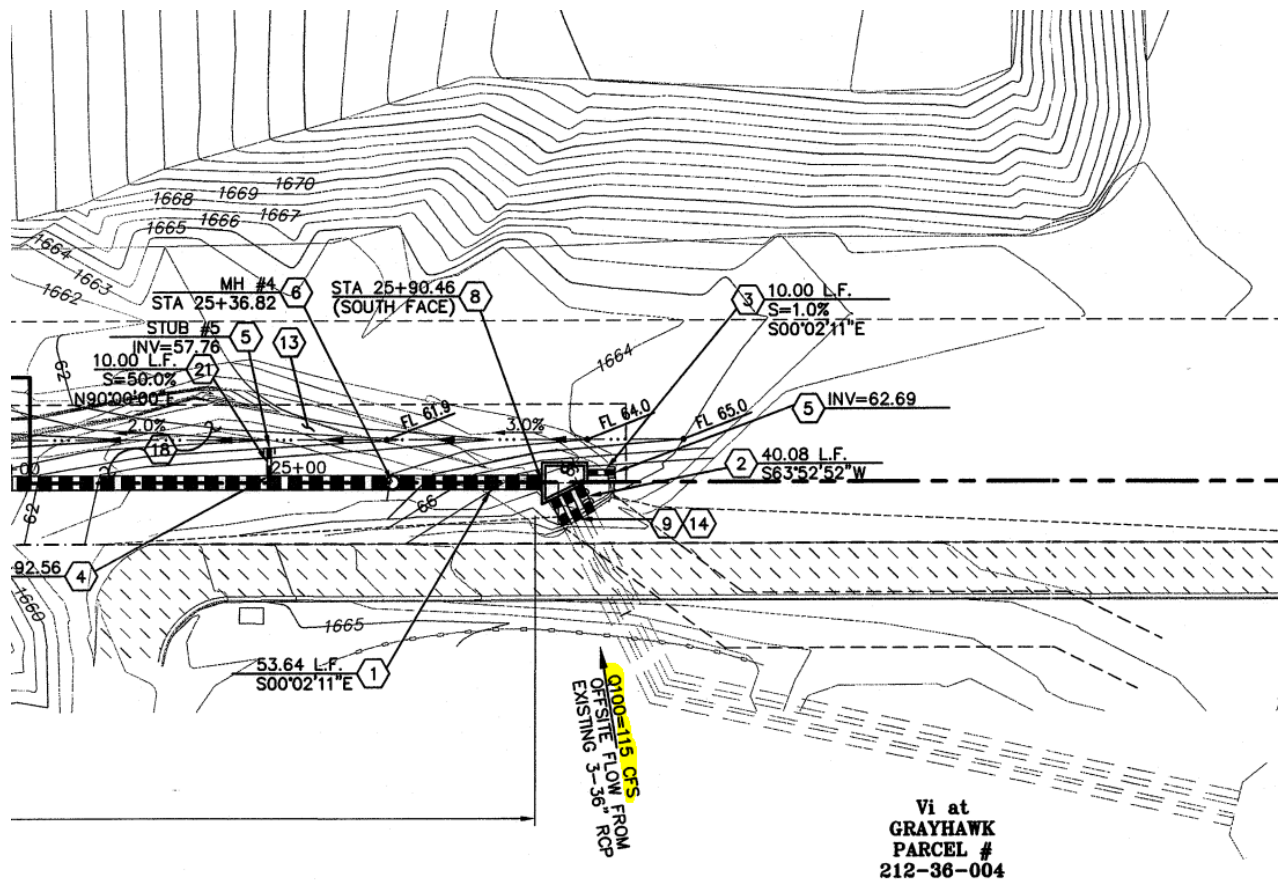

Figure 3. Upstream Tie-in to Three 36-in Pipes (Excerpt from Design Plans)
- 1) There are significant storm drain improvements on the east side of the One Scottsdale project north of Legacy Boulevard that changed the inflow condition to the two 54-in diameter storm drain pipes along the east side of One Scottsdale south of Legacy Boulevard. Basically, a 60-in diameter storm drain was added from approximately 250-ft south of Thompson Peak Parkway to Legacy Boulevard that took inflows from three 36-in culverts (see **Figure 3**) just south of Thompson Peak Parkway and connected to the two 54-in storm drains in a junction structure. This additional 60-in storm drain has multiple inlet locations. One is a major off-site flow location that is highlighted in **Figure 4**, and, in addition, there grate inlets along its length to capture additional off-site inflows (see **Figure 5**) that bypass the upstream tie-in (**Figure 3**) and the off-site inlet (**Figure 4**). This 60-in storm drain improvement and the three 36-in pipes have not been modeled in the Rawhide Wash FHM CLOMR modeling.
- 1) The pipe had a design capacity much larger than 33 cfs. The pipe design flow rate was 115 cfs at the most northern inlet as highlighted in **Figure 3** and 18 cfs at another location to the south as highlighted in **Figure 4** (see complete design plans included as an attachment),